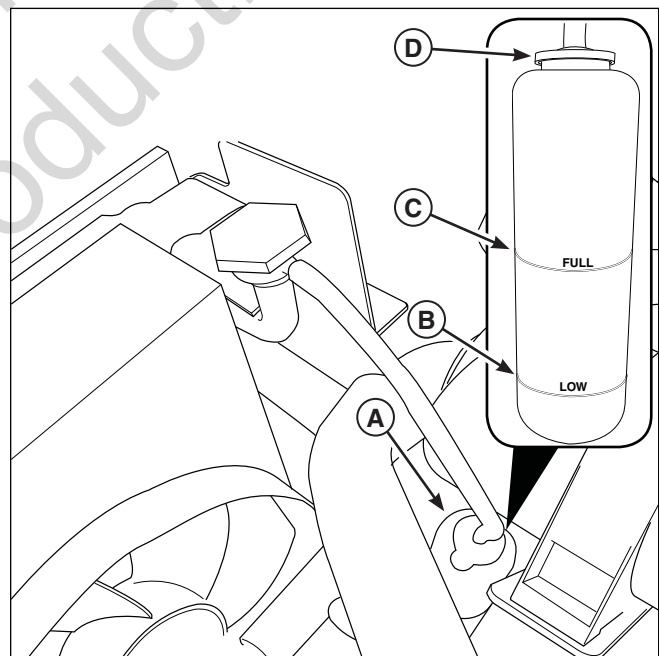

Figure 23. Checking the Engine Coolant Level
1. Open the hood to gain access to the overflow bottle. (See Figure 23).
2. Check the coolant level only at the overflow reservoir (A, Figure 23). The coolant level should be at the LOW (COLD) mark.